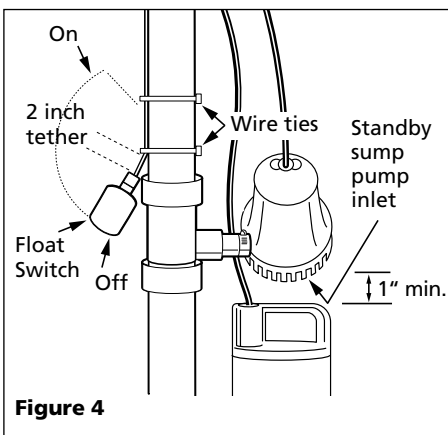

Figure 4
8. The standby pump's float switch should be installed so that it will not activate until the standby pump's inlet is under water. Use the wire ties provided to secure the float switch (see Figure 4). Make sure power wires do not interfere with float switch or pump inlet.